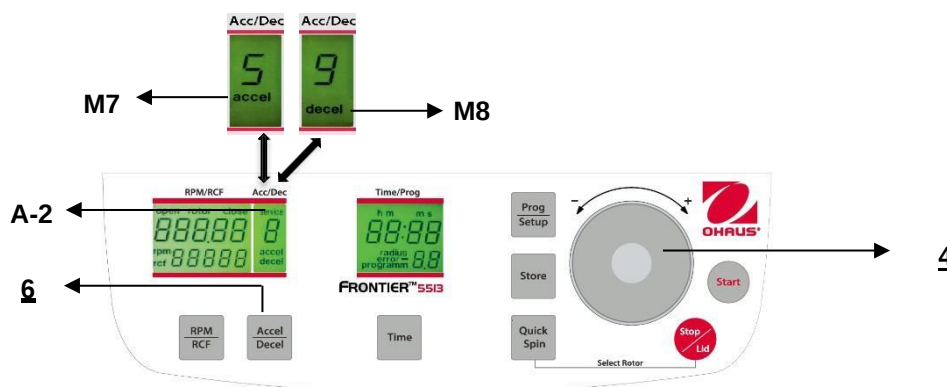

Figure. 15
The lid should only be put down slightly. A lid lock closes the lid, at the same time the word **"open"** (M2) disappears (refer to figure 15).
This function is activated through the key **"Accel/Decel"** (6) (refer to figure 15).